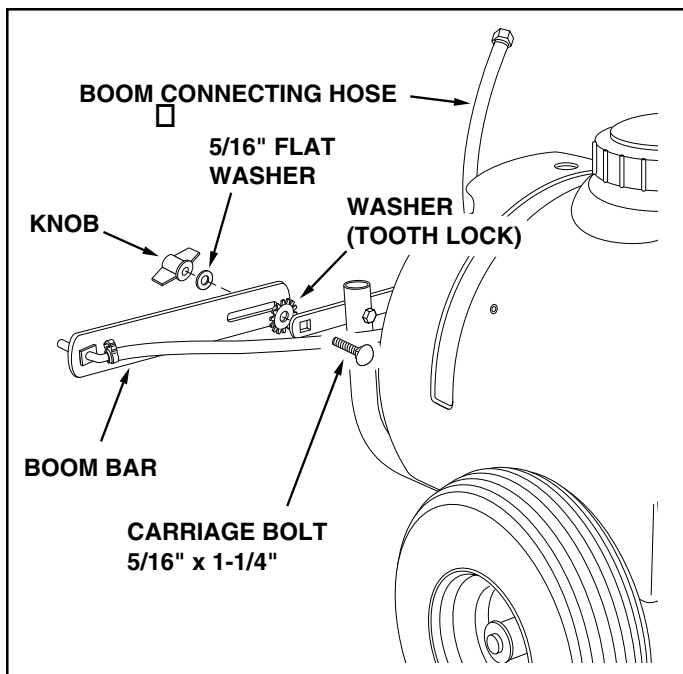

FIGURE 6
11. Assemble the boom bars to the boom mount bracket using two 5/16" x 1-1/4" carriage bolts, tooth lock washers (between the bar and bracket), 5/16" flat washers and knobs. The boom connecting hose should extend upward. See figure 6.